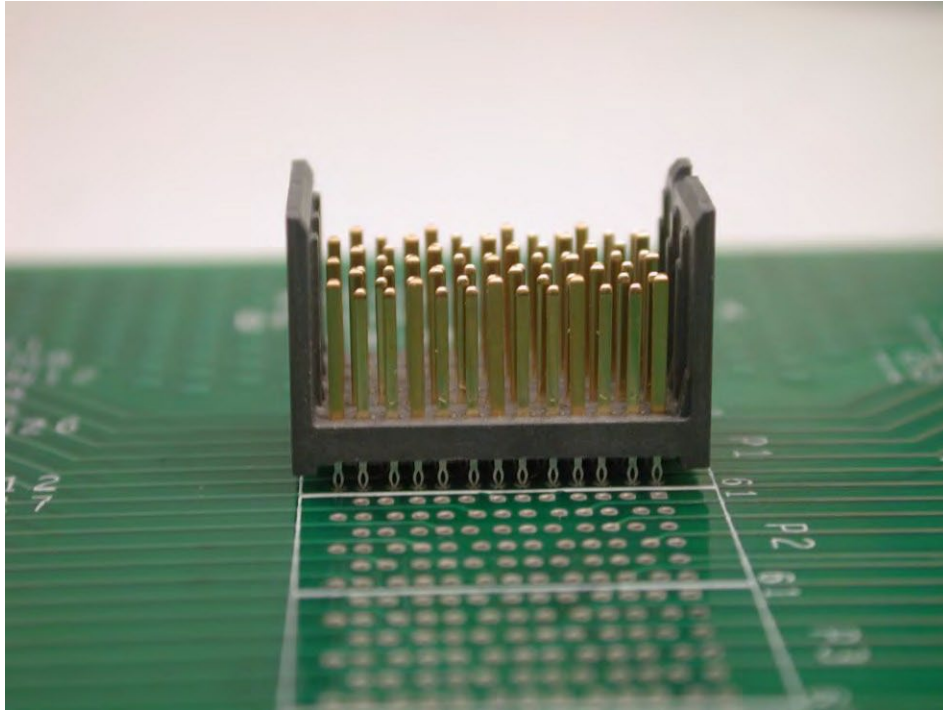

Figure5: Rightmost view of assembly, check for bent pins.
Step 7. Check for any bent pins protruding from under the connector assembly, see Figure 5.